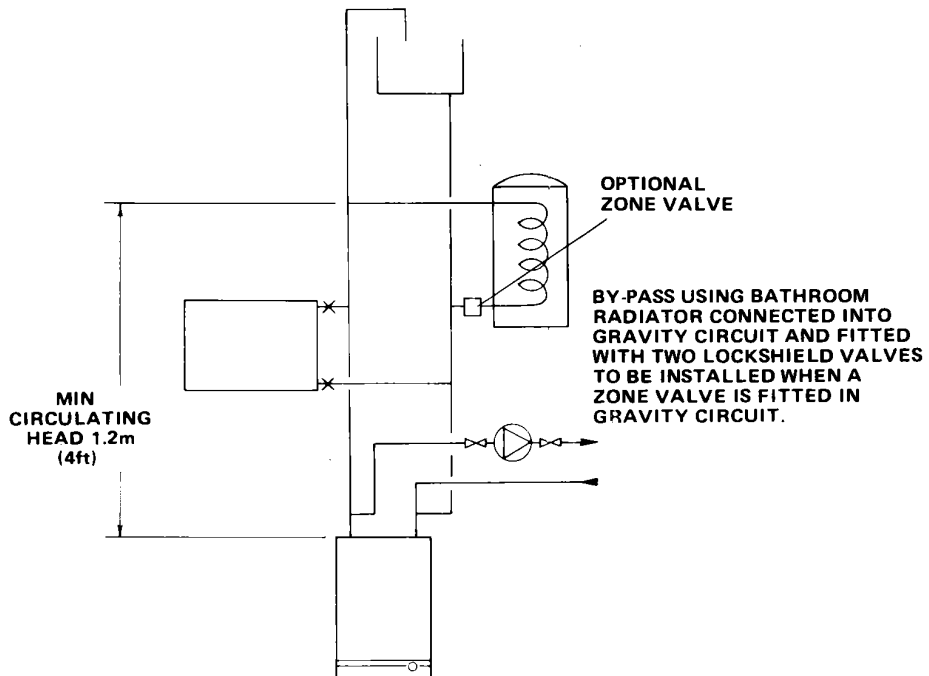

FIG 8. OPEN VENTED GRAVITY DOMESTIC HOT WATER AND PUMPED CENTRAL HEATING SYSTEM
Gravity domestic hot water circuits should have a minimum circulating head of 1.2 m (4ft). See FIG. 8.
**Combined Gravity Hot Water Pumped Central Heating Systems.** Where a cylinder thermostat and zone valve is used to control the temperature of the hot water it is recommended that a by-pass be installed in the gravity circuit. A suggested method of doing this is shown in FIG. 8 where the bathroom radiator is connected into the gravity circuit and is fitted with two lockshield valves. Mechanically operated thermostatic domestic hot water temperature control valves which allow the boiler to operate when the valve is closed or partially closed **MUST NOT BE FITTED.**